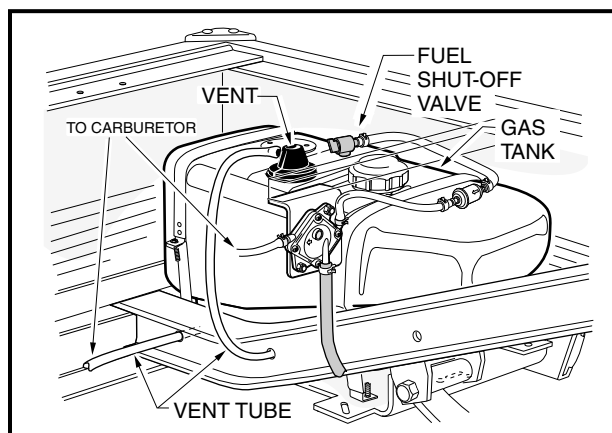

Figure 19 Fuel Tank
- If the vehicle has an all-weather enclosure installed, be sure the gas tank is properly vented as shown (Figure 19, Page 30).